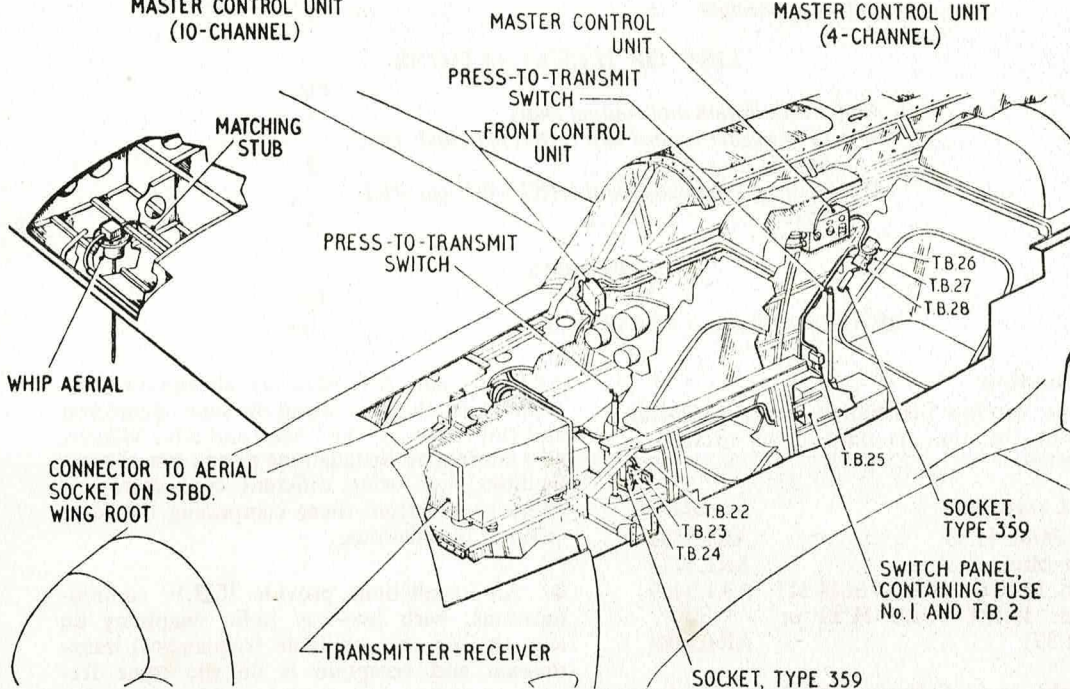

Fig. 1. Radio installation and routing chart
4. Connectors, terminal blocks and other equipment are located in the same positions for all installations, the arrangement being shown in *fig. 1*. The transmitter-receiver is mounted forward of the front instrument panel, with a control unit in each cockpit. The whip aerial is located in the leading edge of the starboard main plane, projecting downwards. For this aircraft the controller in the rear cockpit is a special unit (*para. 8 or 11*).
8. Located in the rear cockpit (*fig. 1*), this unit is identified as Part No. C1.R.143A (Stores Ref. 10L/251). Early aircraft may have a control unit, Part No. C1.R.49A, but the only difference between the two types is that the latter has a connector plug marked TO V.H.F. SET whereas on the former it is marked T.R. 1920.